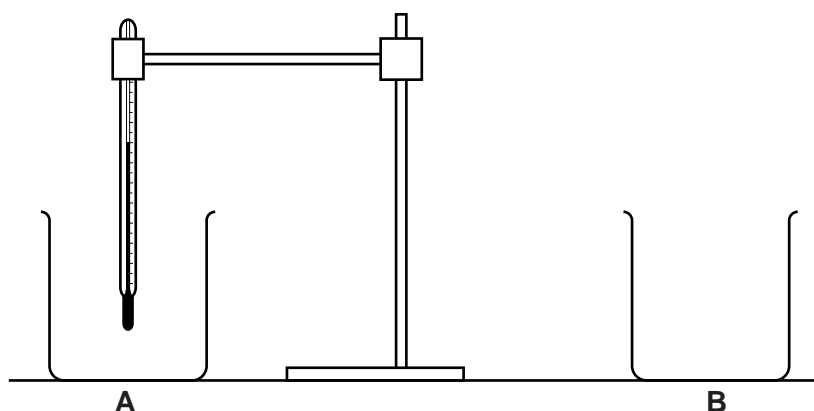

Fig. 2.1
1. Beaker **A**, the thermometer, clamp, boss and stand are to be set up for candidates as shown in Fig. 2.1. The thermometer bulb must be well below the 100 cm^3 level of the beaker. Beaker **B** is to be available for later use.
Check that the apparatus is intact and is arranged as in Fig. 2.1.